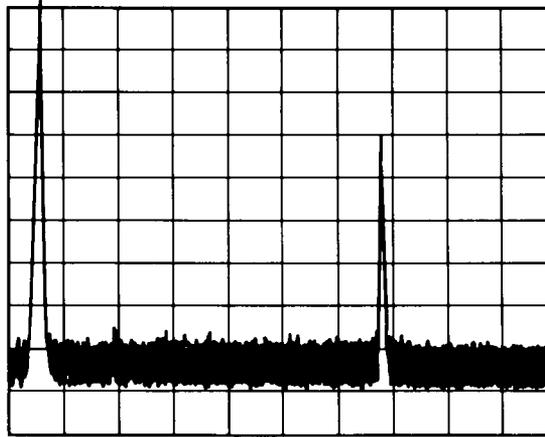

Figure 5-60. Squegging Displayed on Spectrum Analyzer
28. Using the [▲] key on both the DUT and the LO, step through band 2 observing the spectrum analyzer display at each step. There may be signals due to mixing products, and/or squegging. Mixing products will appear as low level signals. Squegging signals will appear as a higher amplitude signal as shown in Figure 5-60. If squegging occurs, adjust A22R50 (C) slightly CCW to eliminate the squegging. Note, if the control is adjusted and there is no effect on the signal, the signal is probably a mixing product.